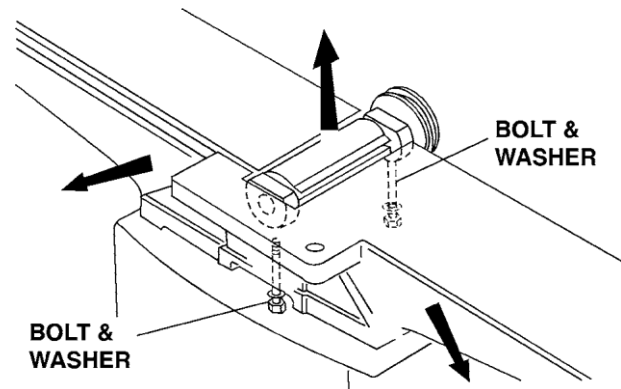

FIG. 14
4. Remove the two bolts and spring washers which secure the cutterhead to the base, as shown in Fig. 14